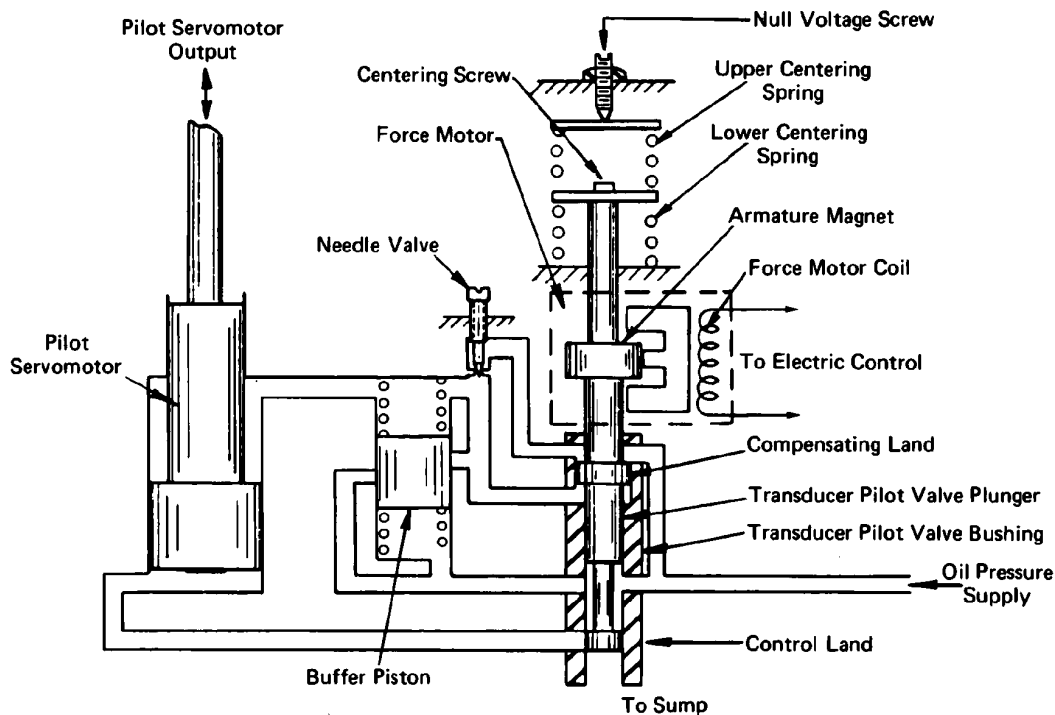

Figure 1-7. Schematic of a Compensated Actuator
Use the actuator tester to center the pilot-valve plunger control land with the pilot-valve bushing control port (see Figure 1-7). If the centering is not correct, null voltage shifts will occur, resulting in a change of prime mover speed. For a theoretical system, null voltage would be zero volts when the speed signal derived from the prime mover is equal to the speed reference signal. If an electrical failure occurs, the pilot valve will remain centered, and the prime mover will run uncontrolled.
2. Insert a 7/64-inch Allen wrench through clearance hole in cover, through hollow center of adjustable spring seat and engage centering screw (see Figure 1-7).